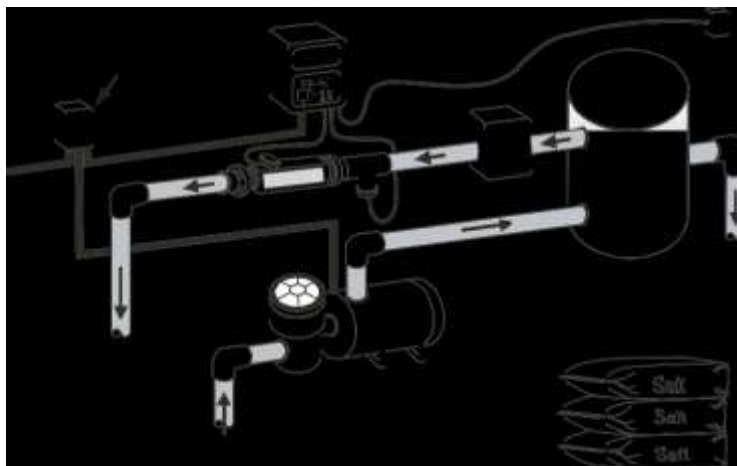

Figure 1. Typical Chlorinator Installation With Options
It is recommended that the water Flow/Salinity Sensor is installed in the same piping as the electrolytic cell, without any valves or diverters between them. (See Section 2, Figure 1).
3. Position the Flow/Temp/Salinity Sensor Tee and Cell in the recommended position (See Figure 7 Detail A) and (Section 2, Figure 1).